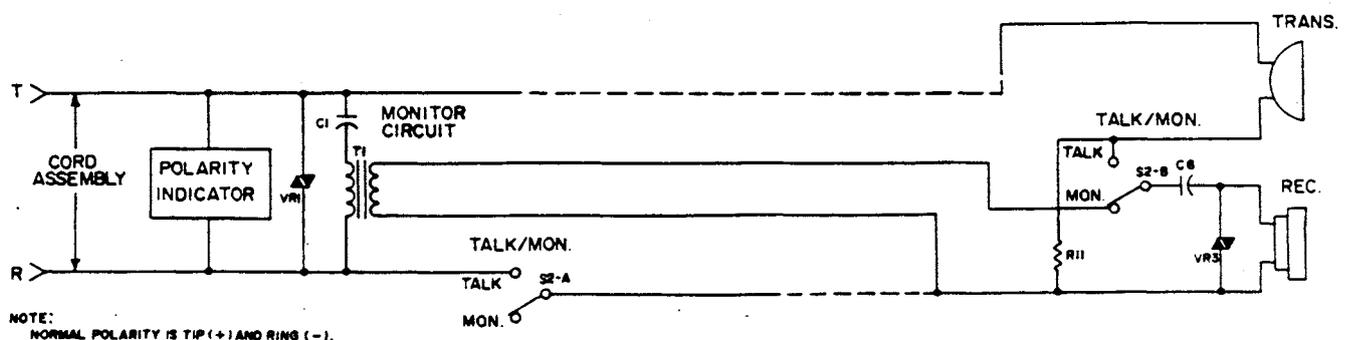

Fig. 5—Condensed Functional Schematic of TS21 Test Set (Monitor Mode)
5.03 Monitor Circuit (Fig. 5): When the TALK/MONITOR switch is placed in the M position, the transmitter is disconnected from the line, and a high-impedance transmission path is established from the tip and ring conductors to the receiver via monitor transformer T1 in conjunction with capacitor C1, section B of the TALK/MONITOR switch in the M position and capacitor C6. The primary impedance of T1 is 150K ohms, while the secondary is 150 ohms. C1 is a dc blocking capacitor to prevent the seizure of the central office while the set is in the monitor mode. The settings of the KEYPAD IN/OUT and MODE switches have no effect on the operation of the set in this mode.